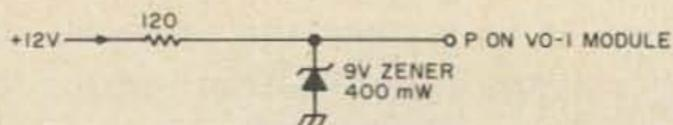

Fig. 2. Simple zener regulator improves transceiver stability greatly when battery supply starts to become "soft" after several hours use.
4.5V batteries, does build up and vfo chirp during keying becomes apparent. The simple solution is a 9V zener regulator for the VO-1 module, as shown in Fig. 2. Reducing the operating voltage of the VO-1 to 9V from its nominal 12V did not produce any noted reduction in output of the TX-1 module, nor in the receiving sensitivity of the MX-1 module.